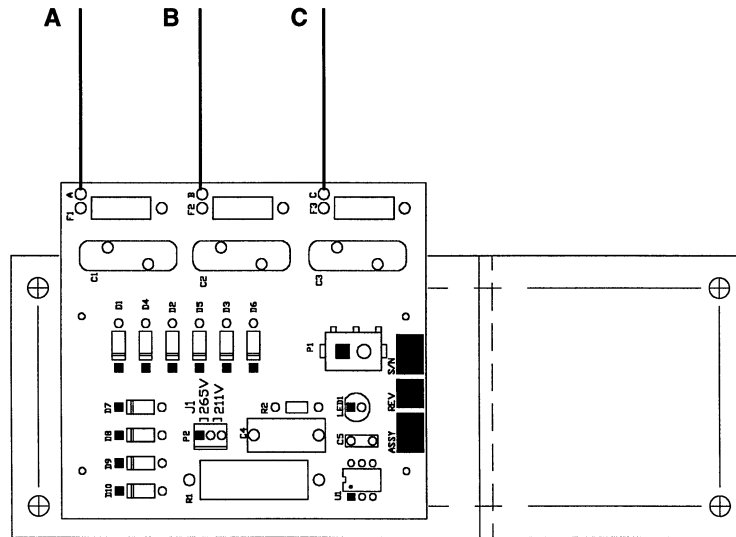

Figure 6 Mounting Phase Loss Detection PCB on Circuit Board Supports
3. Snap the phase loss detection pcb assembly 041564 onto the circuit board supports. Be certain to orient the pcb as shown in Fig. 6.